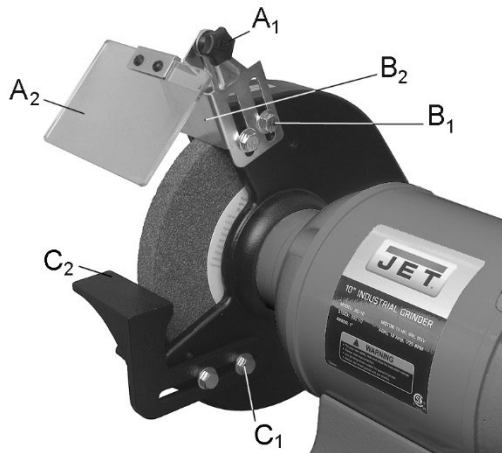

Figure 10: eye shield adjustment
1. Loosen lock knob (A1, Figure 10).
Refer to Figure 10.